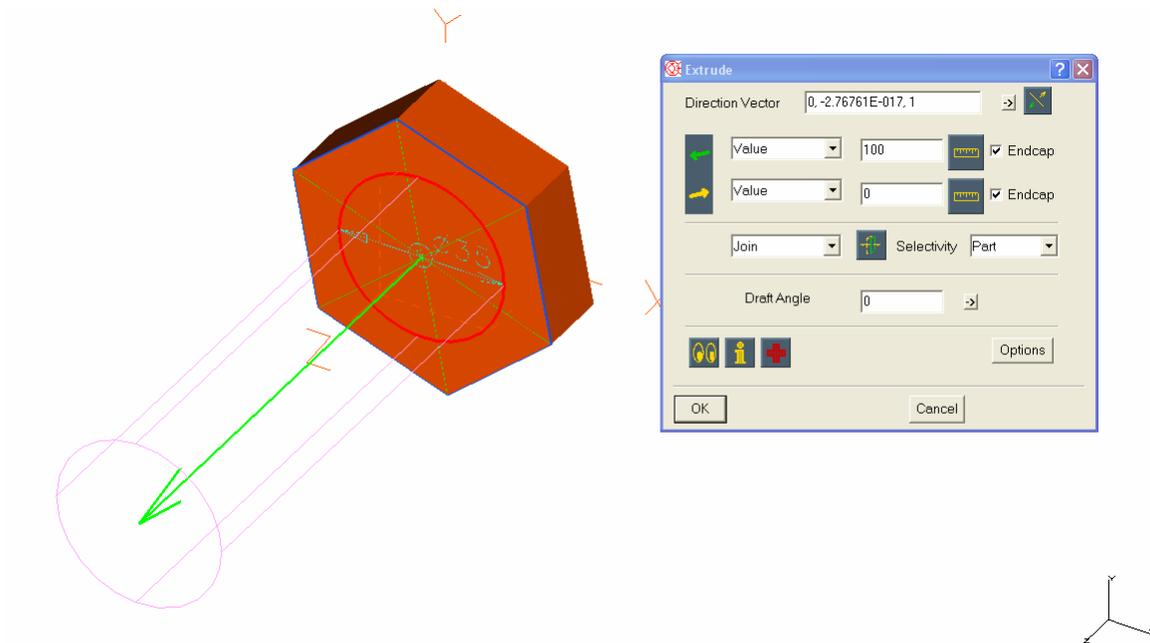

Figure 3: Extrude the polygon to make the bolt head
3. Name the part as *bolthead* as shown in figure 3.